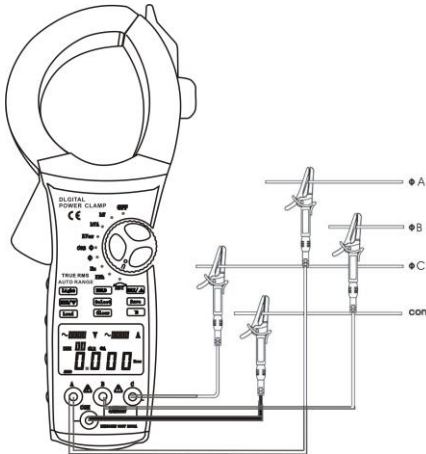

figure 30
(1) Turn on Rotary Switch to select “RST ”, (figure 30)